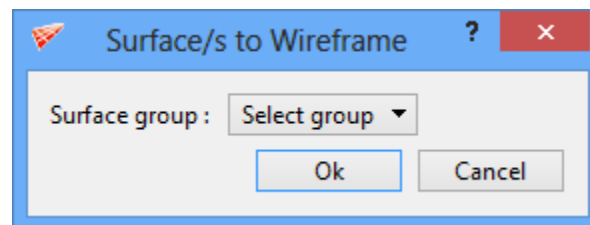

Figure 2.25: Surface to Wireframe conversion
**Surface to Wireframe:** Converts any surface (Supported formats\*: quad, tria, lin, dat) which is loaded into the UI and saves as a fra file in the working directory. Opens a dialog box once it is selected where a surface group\* contains the surfaces to be converted should be selected in the respective field as shown in figure 2.25.